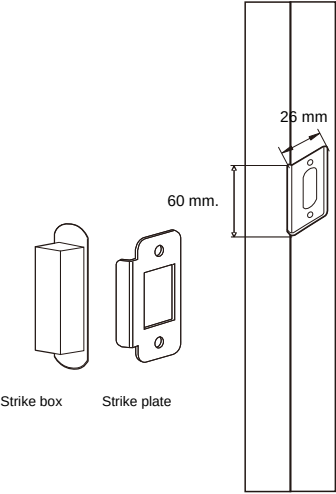
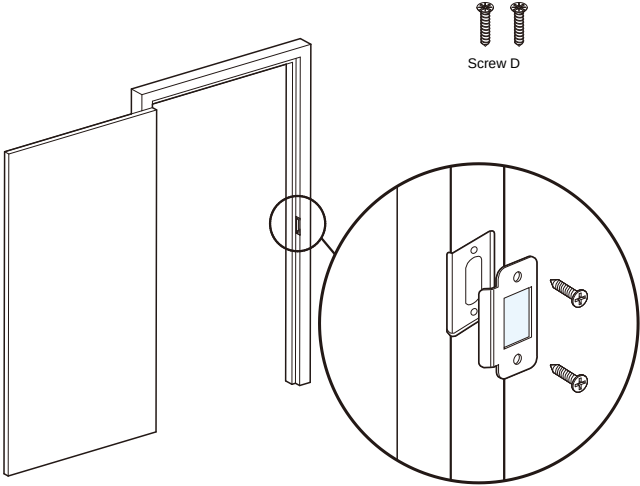

Fig. 2
Fig. 3
1. As shown in Fig. 2 and Fig. 3, drill the hole for installing the strike box. The hole depth must be 15 mm and the length 60 mm.
2. Install the strike plate as shown in Fig. 2. The width is and the length is
3. As shown in Fig. 3, place the strike box into the hole, cover it with the strike plate, and tighten with screw D.